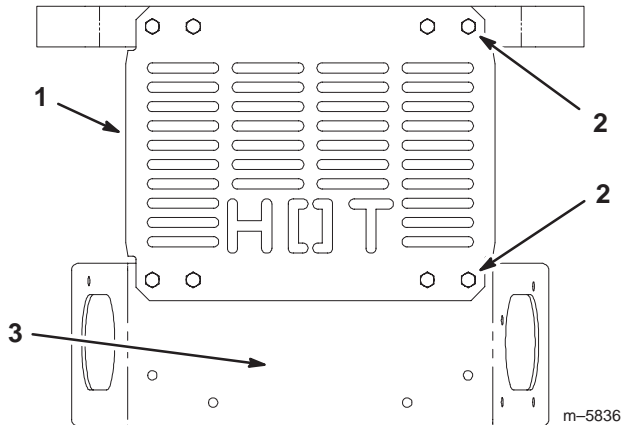

Figure 2
1. Remove the rear heat shield (Fig. 2). Discard the bolts and nuts.